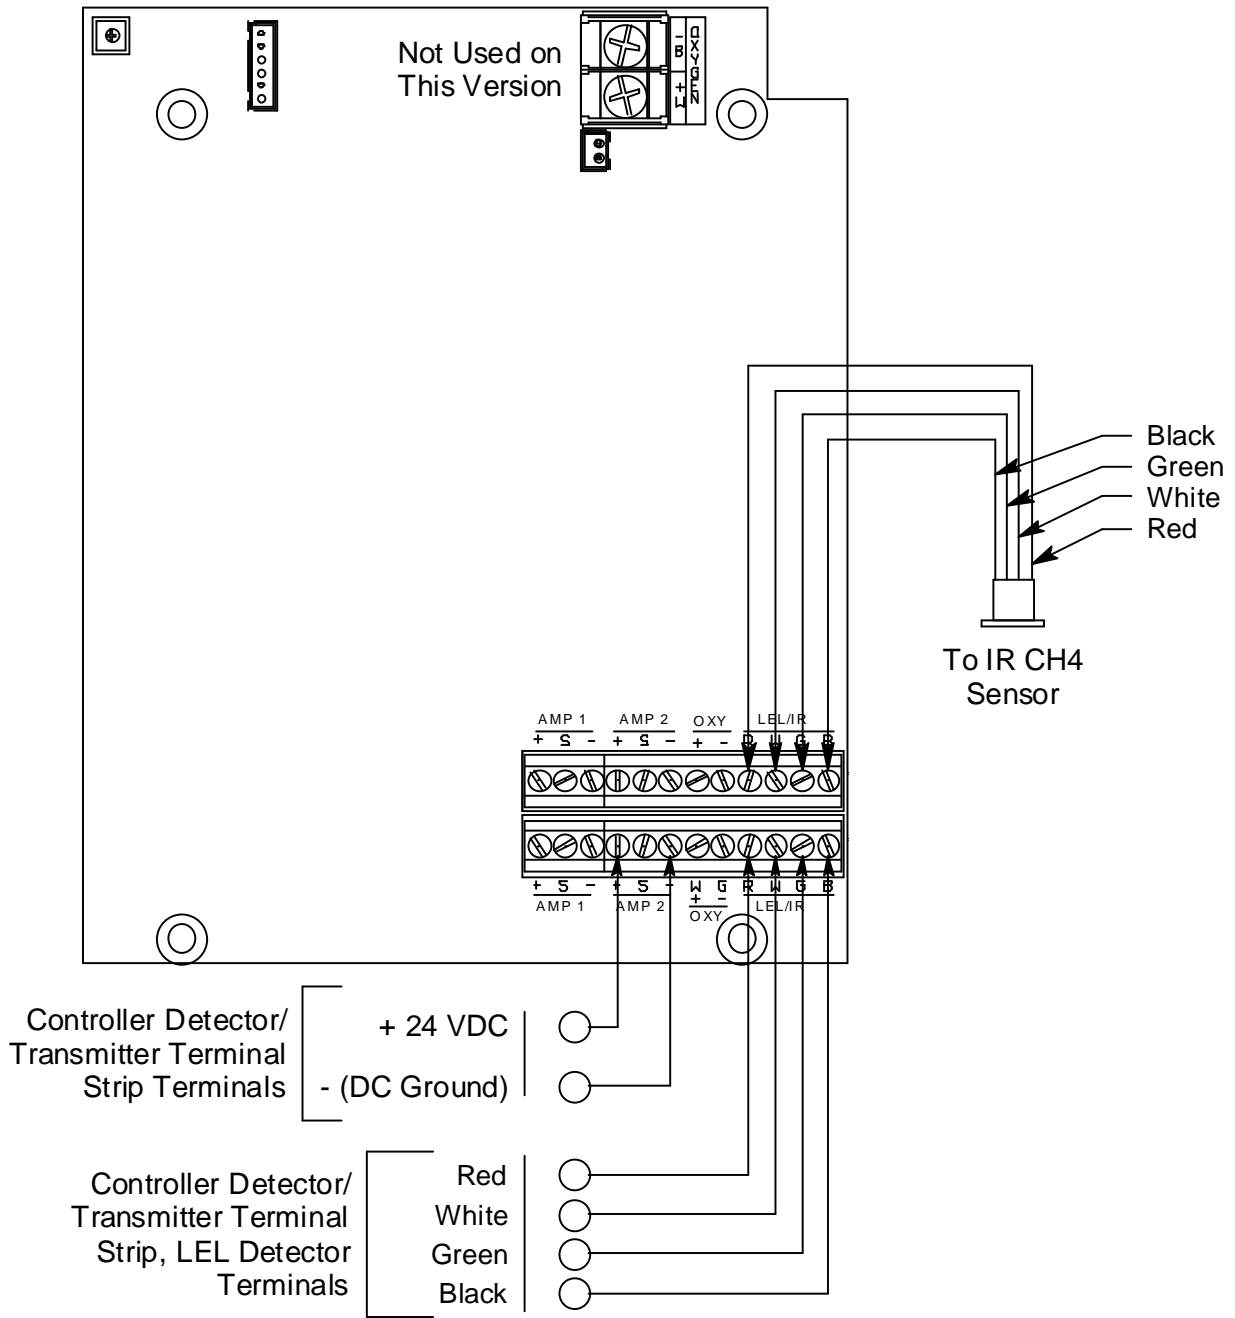

Figure 4: Wiring the Sample-Draw Detector to a Controller
5. Connect the cable to the sample-draw detector’s interconnect terminal strip as shown in Figure 4.
- Connect the wires to the applicable detector/transmitter terminal strip at the controller as shown in Figure 4. Refer to the controller operator's manual and the controller detector head specification sheet for the 35-3001-01-01 for detector/terminal strip connections specific to the controller.